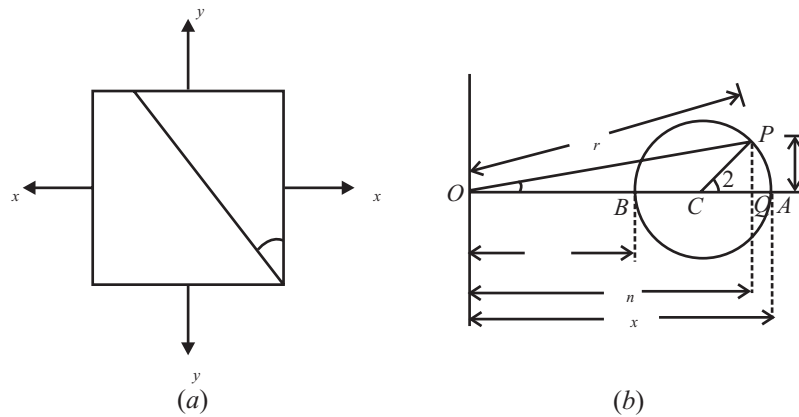

Fig 15.14
3. To obtain stress on any plane, as shown in fig. 15.14 (a) measure angle $ACP = 2\phi$, in counter-clock wise direction.